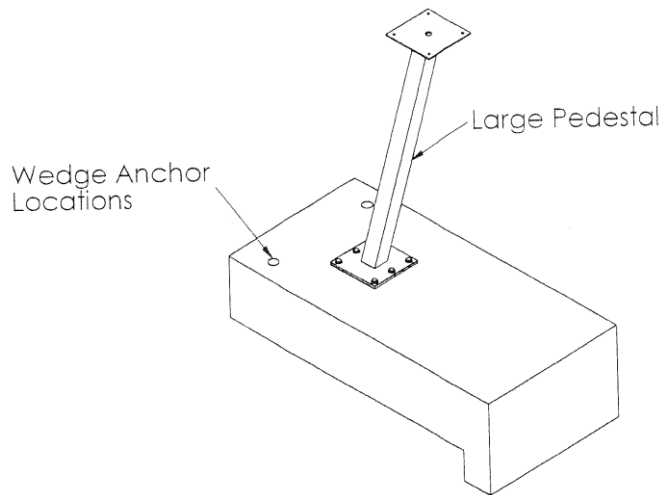

Figure 2
Step 1: Attach the large pedestal to the permanent guard chair anchor installed in the concrete deck as shown in figure 2.